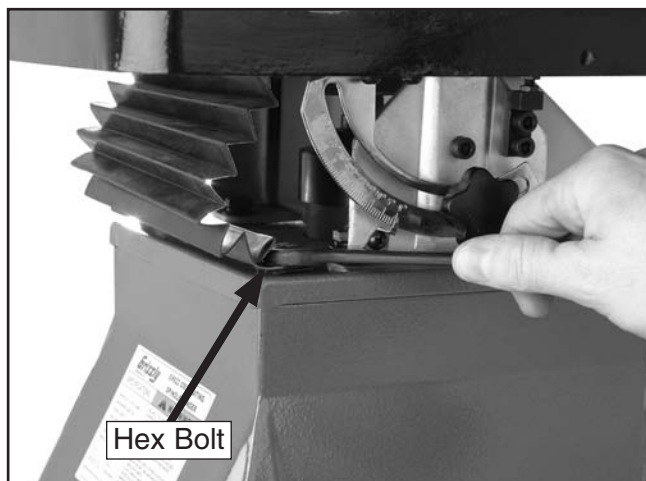

Figure 17. Removing dust cover.
11. To easily access the spindle nut, move the dust cover out of the way by removing the two hex bolts that secure it to the machine base (**Figure 17**).